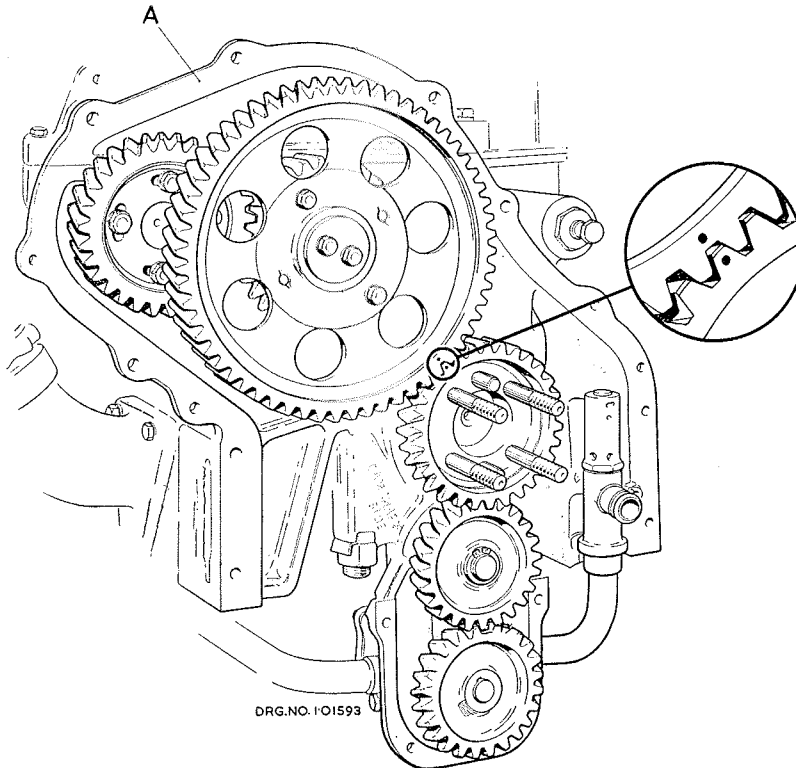

Fig. 6.—Timing marks.
- (g) Remove the end plate secured by three setscrews to the top face of the cylinder housing ('A', Fig. 6).